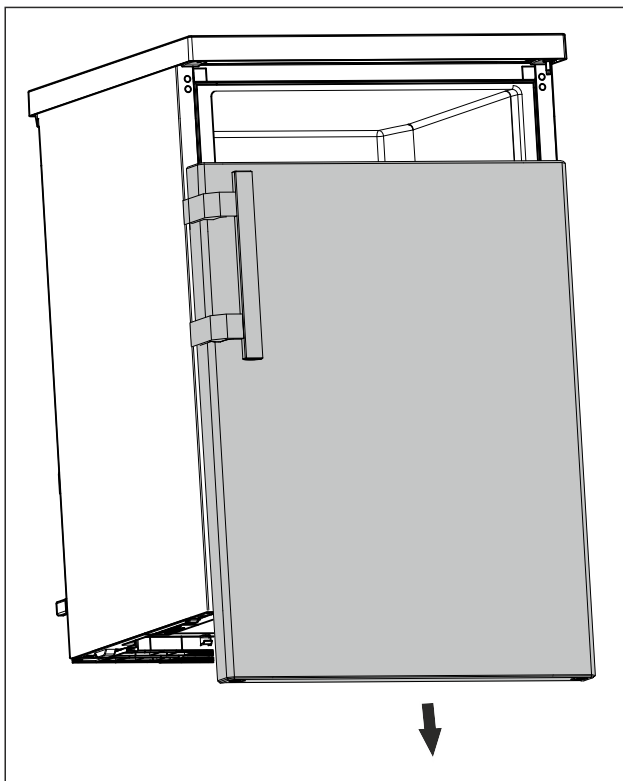

Fig. 8
- ▶ Remove the door downwards. (see Fig. 8)